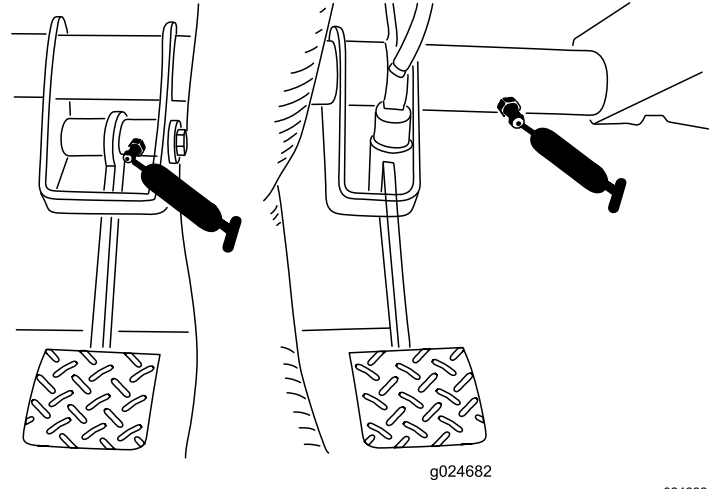

Figure 31
- **Clutch (1)**; refer to Figure 31
- **Brake (1)**; refer to Figure 31